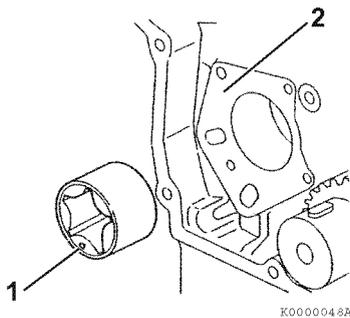

Figure 9-18
2. Reinstall the outer rotor in the gear case housing. The punch mark (1, **Figure 9-18**) on the end of the outer rotor must face away from the gear case housing (2, **Figure 9-18**).